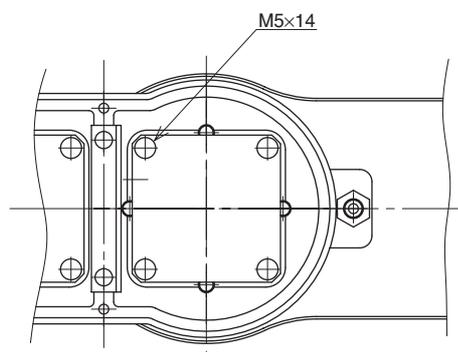

Fig. 5-23
- 7) Remove the Y-axis motor installation bolts (M5×14L, 4 pieces) and then remove the Y-axis motor by swaying it gently right and left. (See Fig. 5-23.)
- 19) Fit a new O-ring to the motor and tighten the bolts (M5×14L, 4 pieces) you removed earlier to temporarily secure the motor to the Y-axis arm. (See Fig. 5-23 and Fig. 5-27.)